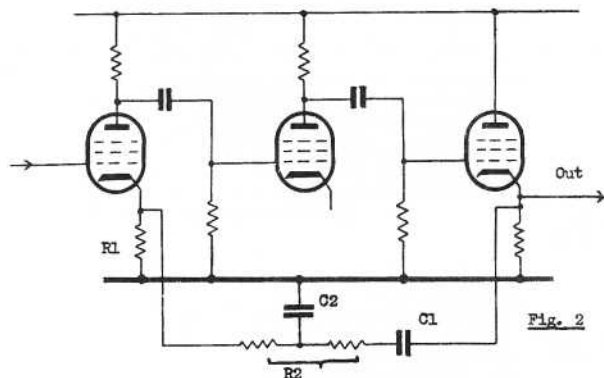

Fig. 2
Figure 2 shows the circuit diagram. As usual with BATC circuits, values are not critical and standard parts are used wherever possible. Possible economies in valves and components have been sacrificed in order to make the unit easily serviced and set up with a minimum of test gear.
H.F. response can also be controlled by judicious use of NFB; a small capacitor of the order of a few pF across R_2 will apply more feedback at high than at mid-frequencies, tending to cause the frequency response to fall at high frequencies. If as more usually happens, a lift at H.F. is required, the feedback may be shorted to earth at H.F. by a small capacitor, best done by splitting R_2 in two, and putting a small C to earth from the mid-point, as in Fig. 2. Splitting R_2 so that C_2 is $1/3$ of the way along may give better results.